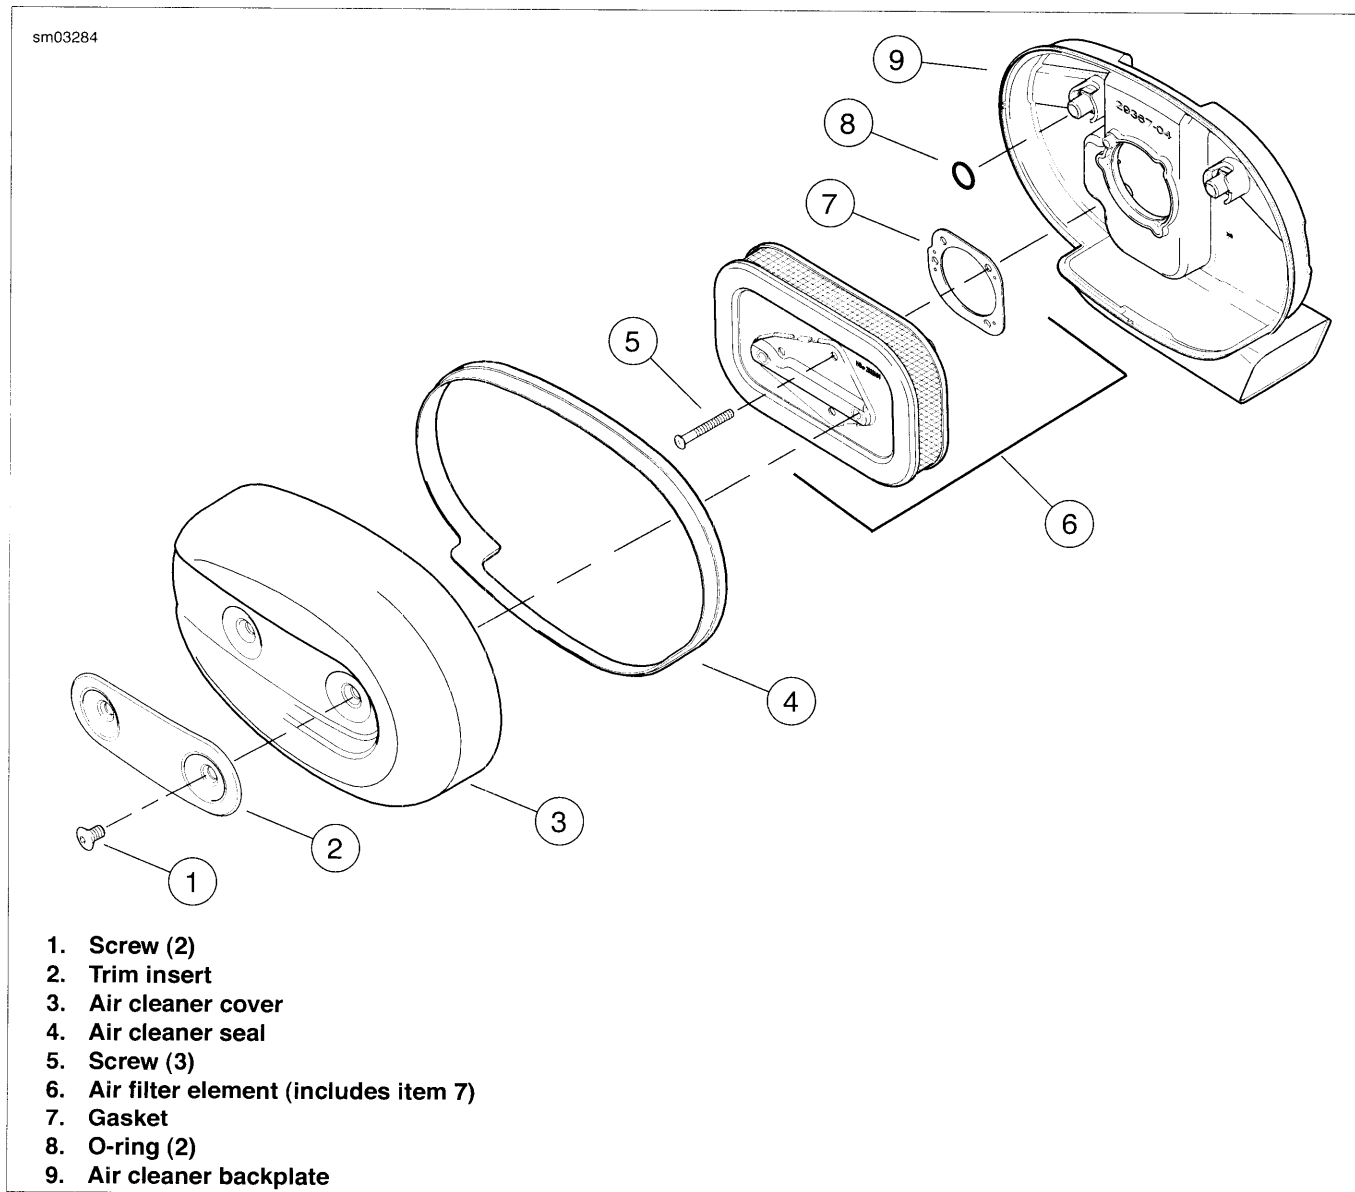

Figure 1-80. Air Cleaner Assembly: XL Models
1. See Figure 1-80. Remove two screws (1) and trim insert (2) from air cleaner cover (3).
2. Remove air cleaner cover from air cleaner backplate (9). Remove air cleaner seal (4) from cover.
3. Remove three screws (5). Remove air filter element (6) and gasket (7) from air cleaner backplate. Discard gasket.
1. See Figure 1-80. Thoroughly clean air cleaner backplate (9) and inside of air cleaner cover (3).
2. If air filter element (6) is damaged or if filter media cannot be adequately cleaned, replace element and proceed to steps below to examine O-rings and air cleaner seal.
1. See Figure 1-80. Apply a thin coat of engine oil or light grease to O-rings (8). This will help prevent them from being damaged when air filter element is installed.
2. Position **new** gasket (7) on air cleaner backplate (9). Make sure gasket holes are lined up with backplate holes.
3. Install air filter element (6) onto backplate. The words "This Side Out" should be readable on the upper edge of the air filter element when installed. Apply a drop of Loctite 243 to each of three air filter element screws (5). Secure filter element with screws and tighten to 40-60 **in-lbs** (4.5-6.8 Nm).
4. Fit air cleaner seal (4) onto air cleaner cover (3). To maintain proper sealing, make sure air cleaner seal covers entire edge of air cleaner cover.
6. Install trim insert (2) and secure cover assembly with two screws (1). Tighten to 36-60 **in-lbs** (4.1-6.8 Nm).